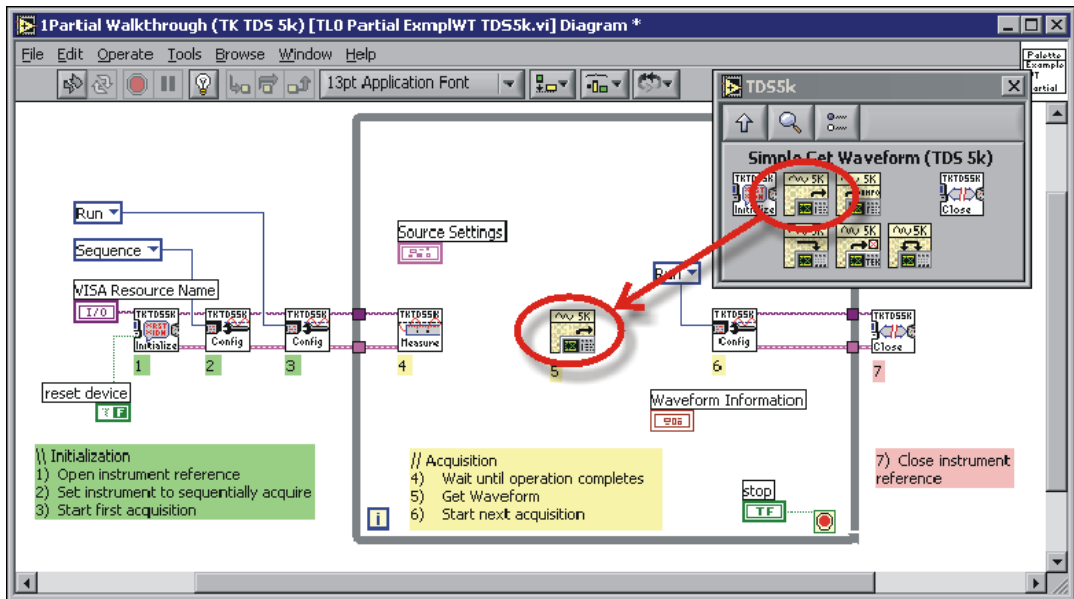

Figure 6. Placing the Simple Get Waveform VI on the Block Diagram
10. Search for and place the Tektronix-specific Simple Get Waveform VI on the block diagram as shown in Figure 6.